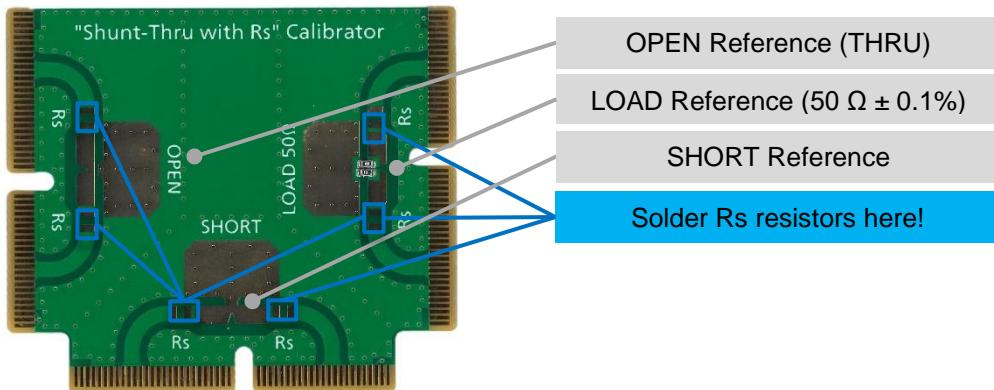

Figure 4-13: “Shunt-Thru with Rs” Calibrator
To calibrate a Shunt-Thru with Rs impedance measurement use the green “Shunt-Thru with Rs” Calibrator (see Figure 4-13) containing an Open, Short and Load reference element and proceed as follows:
1. Solder the 6 (six) Rs resistors to the corresponding locations as shown in Figure 4-13.